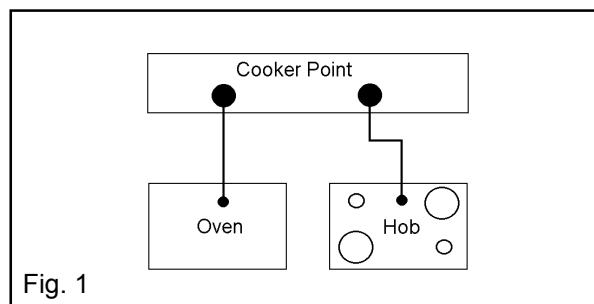

Fig. 1
- c) If you wish to connect an oven and a hob to a cooker point you can by connecting the oven and hob separately to the cooker point. Oven and hob units should be separately connected to a cooker point. See Fig. 1.